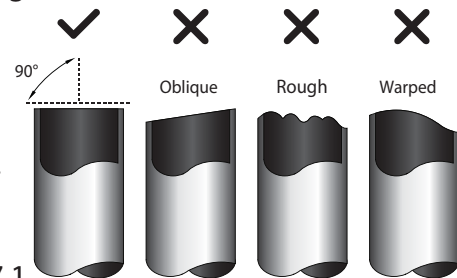

Fig. 7.1
1. Make sure that the pipe is cut at a perfect 90° angle. Refer to Fig. 7.1 for examples of a good cut versus bad cuts.